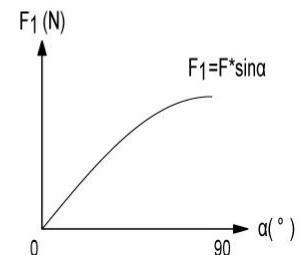

Figure 5
4. Move the gate to the fully open position, retract the gate arm fully, then temporarily secure the brackets to the gate and the post with two C clamps. Note that the mounting position should be as per Figure 5. Verify that the gate arm is level.
The table in Figure 5 shows the maximum opening angle of the gate for a given A and B. For example, if A is 15cm and B is 20cm, the maximum opening angle of the gate is 110°.